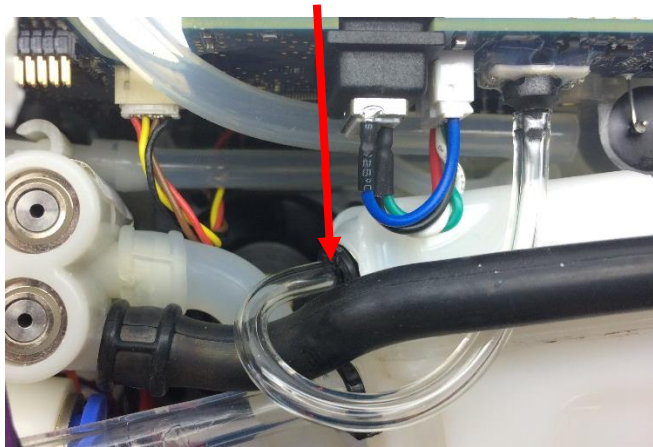

Figure 8: Accumulator Sensor Tubing
3. Remove the Accumulator Sensor Tubing by pushing down on the retaining ring while gently pulling on the tubing. Be careful not to apply any force to the pressure sensor. (Figure 8)